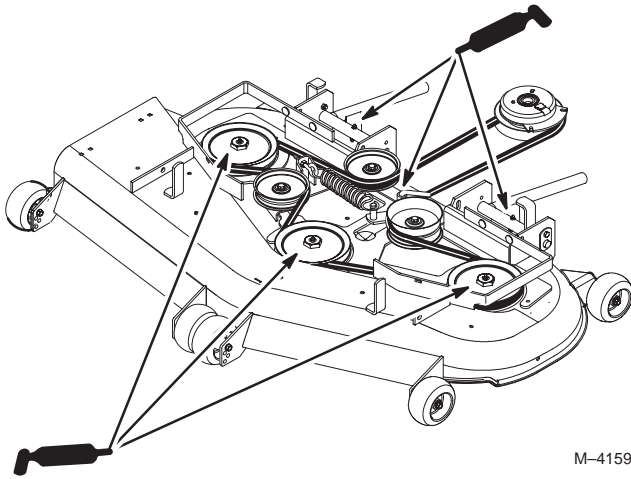

Figure 43
2. Grease the fittings on the three spindle bearings (Fig. 43).
3. Grease the idler pulley pivot (Fig. 43).
4. Grease the fittings on the push arms (Fig. 43).